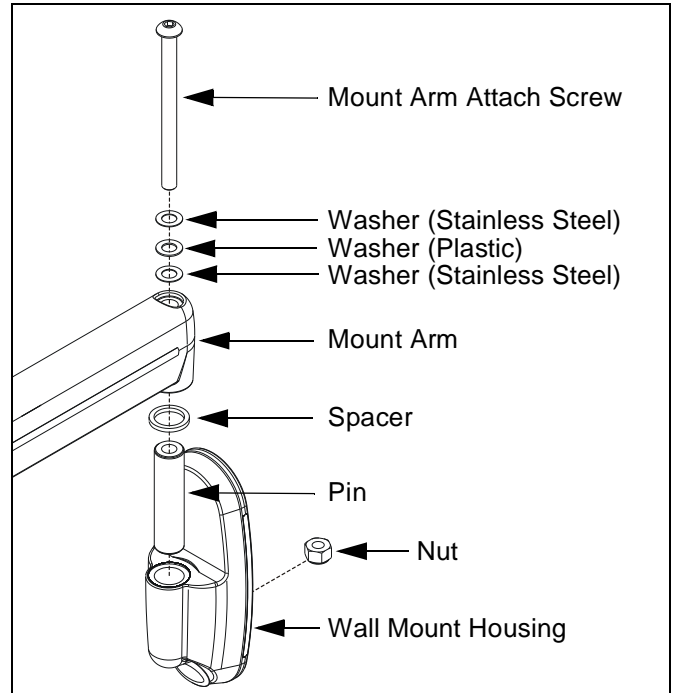

Figure 6: Disassemble Wall Mount
- Remove mount arm from wall mount (See Figure 6). Retain all hardware for later mount arm assembly.